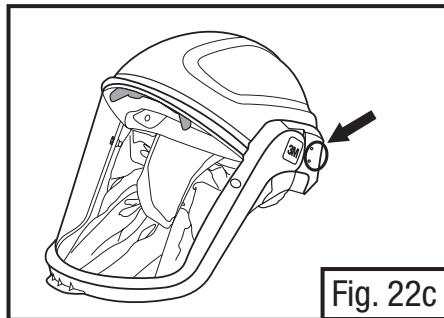

Fig. 22c
- Locate the earmuff attachment points on the outside of the headgear shell (Fig. 22c & d). Note on the M-300 Series Headgear there are visible indents on the outside of the shell where the earmuffs attach. On the M-100, the indents may not be as visible on the outside of the shell.